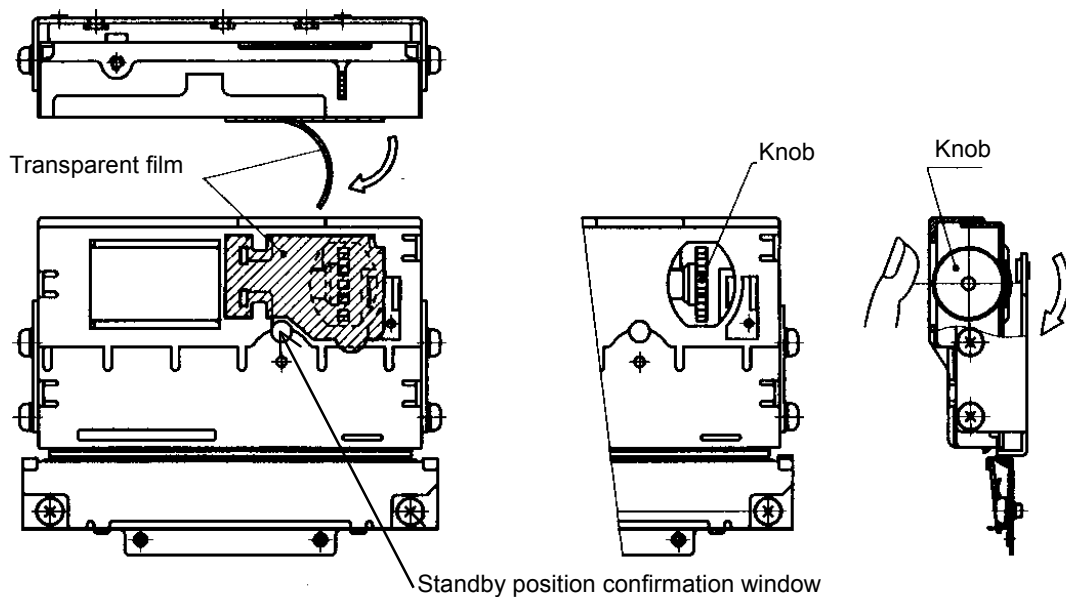

Figure 9-4 Clearing a Paper Jam in the Autocutter
- (1) Tear transparent film from the upper surface of the autocutter (**Figure 9-4 (1)**), turn the knob in the direction shown in **Figure 9-4 (2)** until the entire hole of the warm wheel can be seen from the standby position confirmation window and retreat the movable blade. (**Figure 9-4 (2)**)